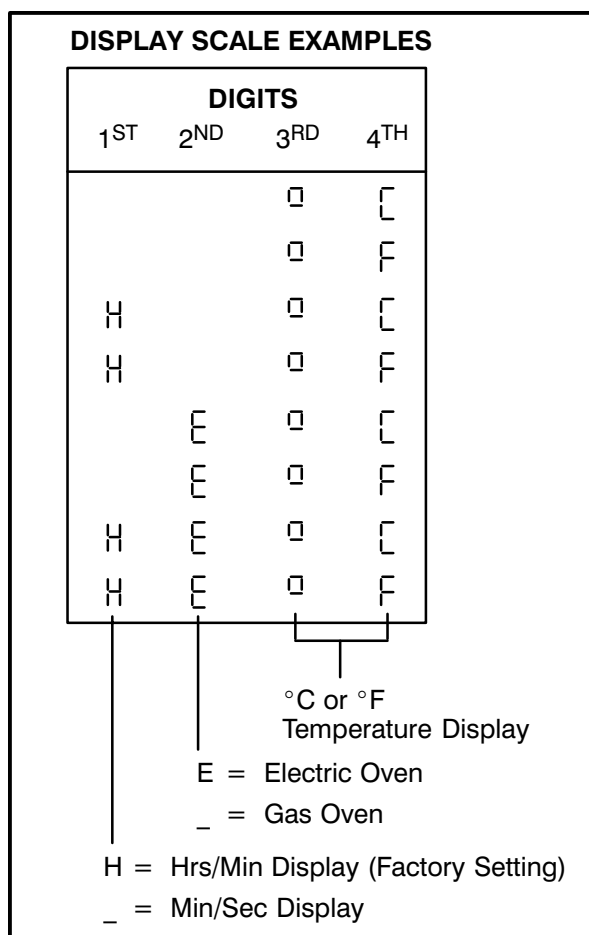

FIGURE 21
2. The control displays the current setting from the following menu. See FIGURE 21. This menu controls 3 separate parameters: